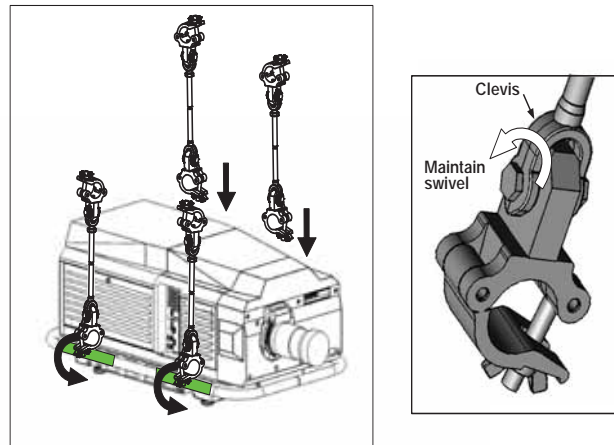
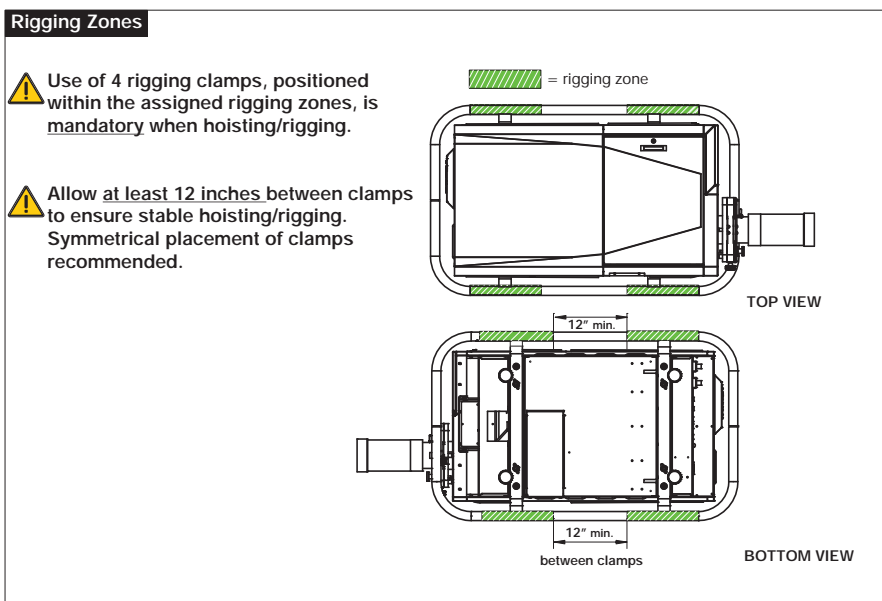

Figure 2-20 Securing Clamps to Projection Head
Figure 2-21 Rigging Zones on Projector Handles
2. Clamp the 4 rigging clamps to the projector's handles staying within the assigned rigging zones. Refer to Figure 2-20 and Figure 2-21, and allow a minimum of 12 inches between clamps for proper stability. Do not tighten the cross bolt of the clevis arms to ensure the rigging clamp can swivel freely.
4. Secure the projector with an additional two safety straps. Using one safety strap per crossbeam, route the strap through the bottom 2 eyebolts and bring them up, and around the outside of the handles. Refer to Figure 2-21.